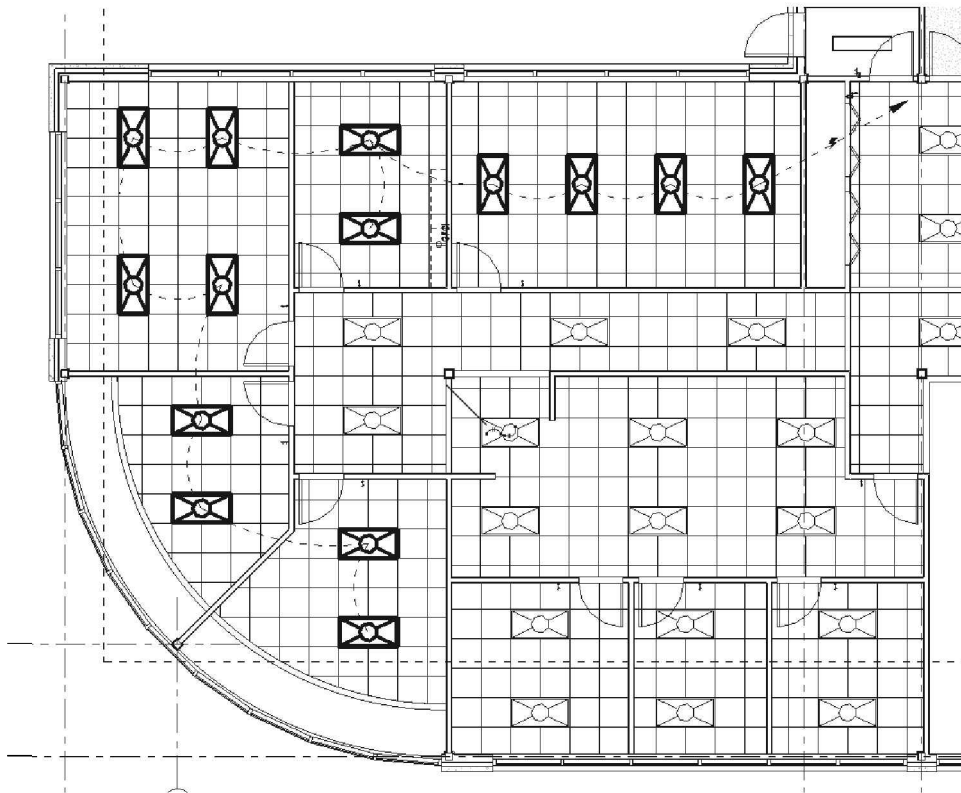

FIGURE 14-4.8 Level 1 light fixtures to go on circuit #6
28. With the **Add to Circuit** option selected on the *Ribbon*, select the light fixtures shown in Figure 14-4.8.
If you hover over one of the light fixtures you just placed on a circuit and then press the **Tab** key on the keyboard, you will see several dashed arcs indicating which fixtures are on a circuit, as shown in Figure 14-4.8. If you then select the fixture, you can convert the temporary dashed arcs to *Wires*, which are lines that represent real wires the electrical contractor will install.